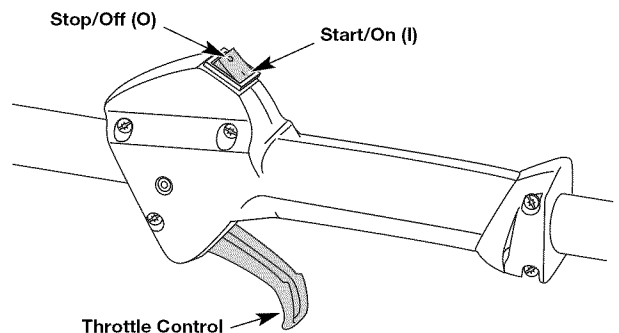

Fig. 8
NOTE: There is no need to turn the unit on. The On/Off Stop Control is in the ON (I) position at all times (Fig. 8).
2. Press and hold the On/Off Stop Control in the OFF (O) position until engine comes to a complete stop (Fig. 8).